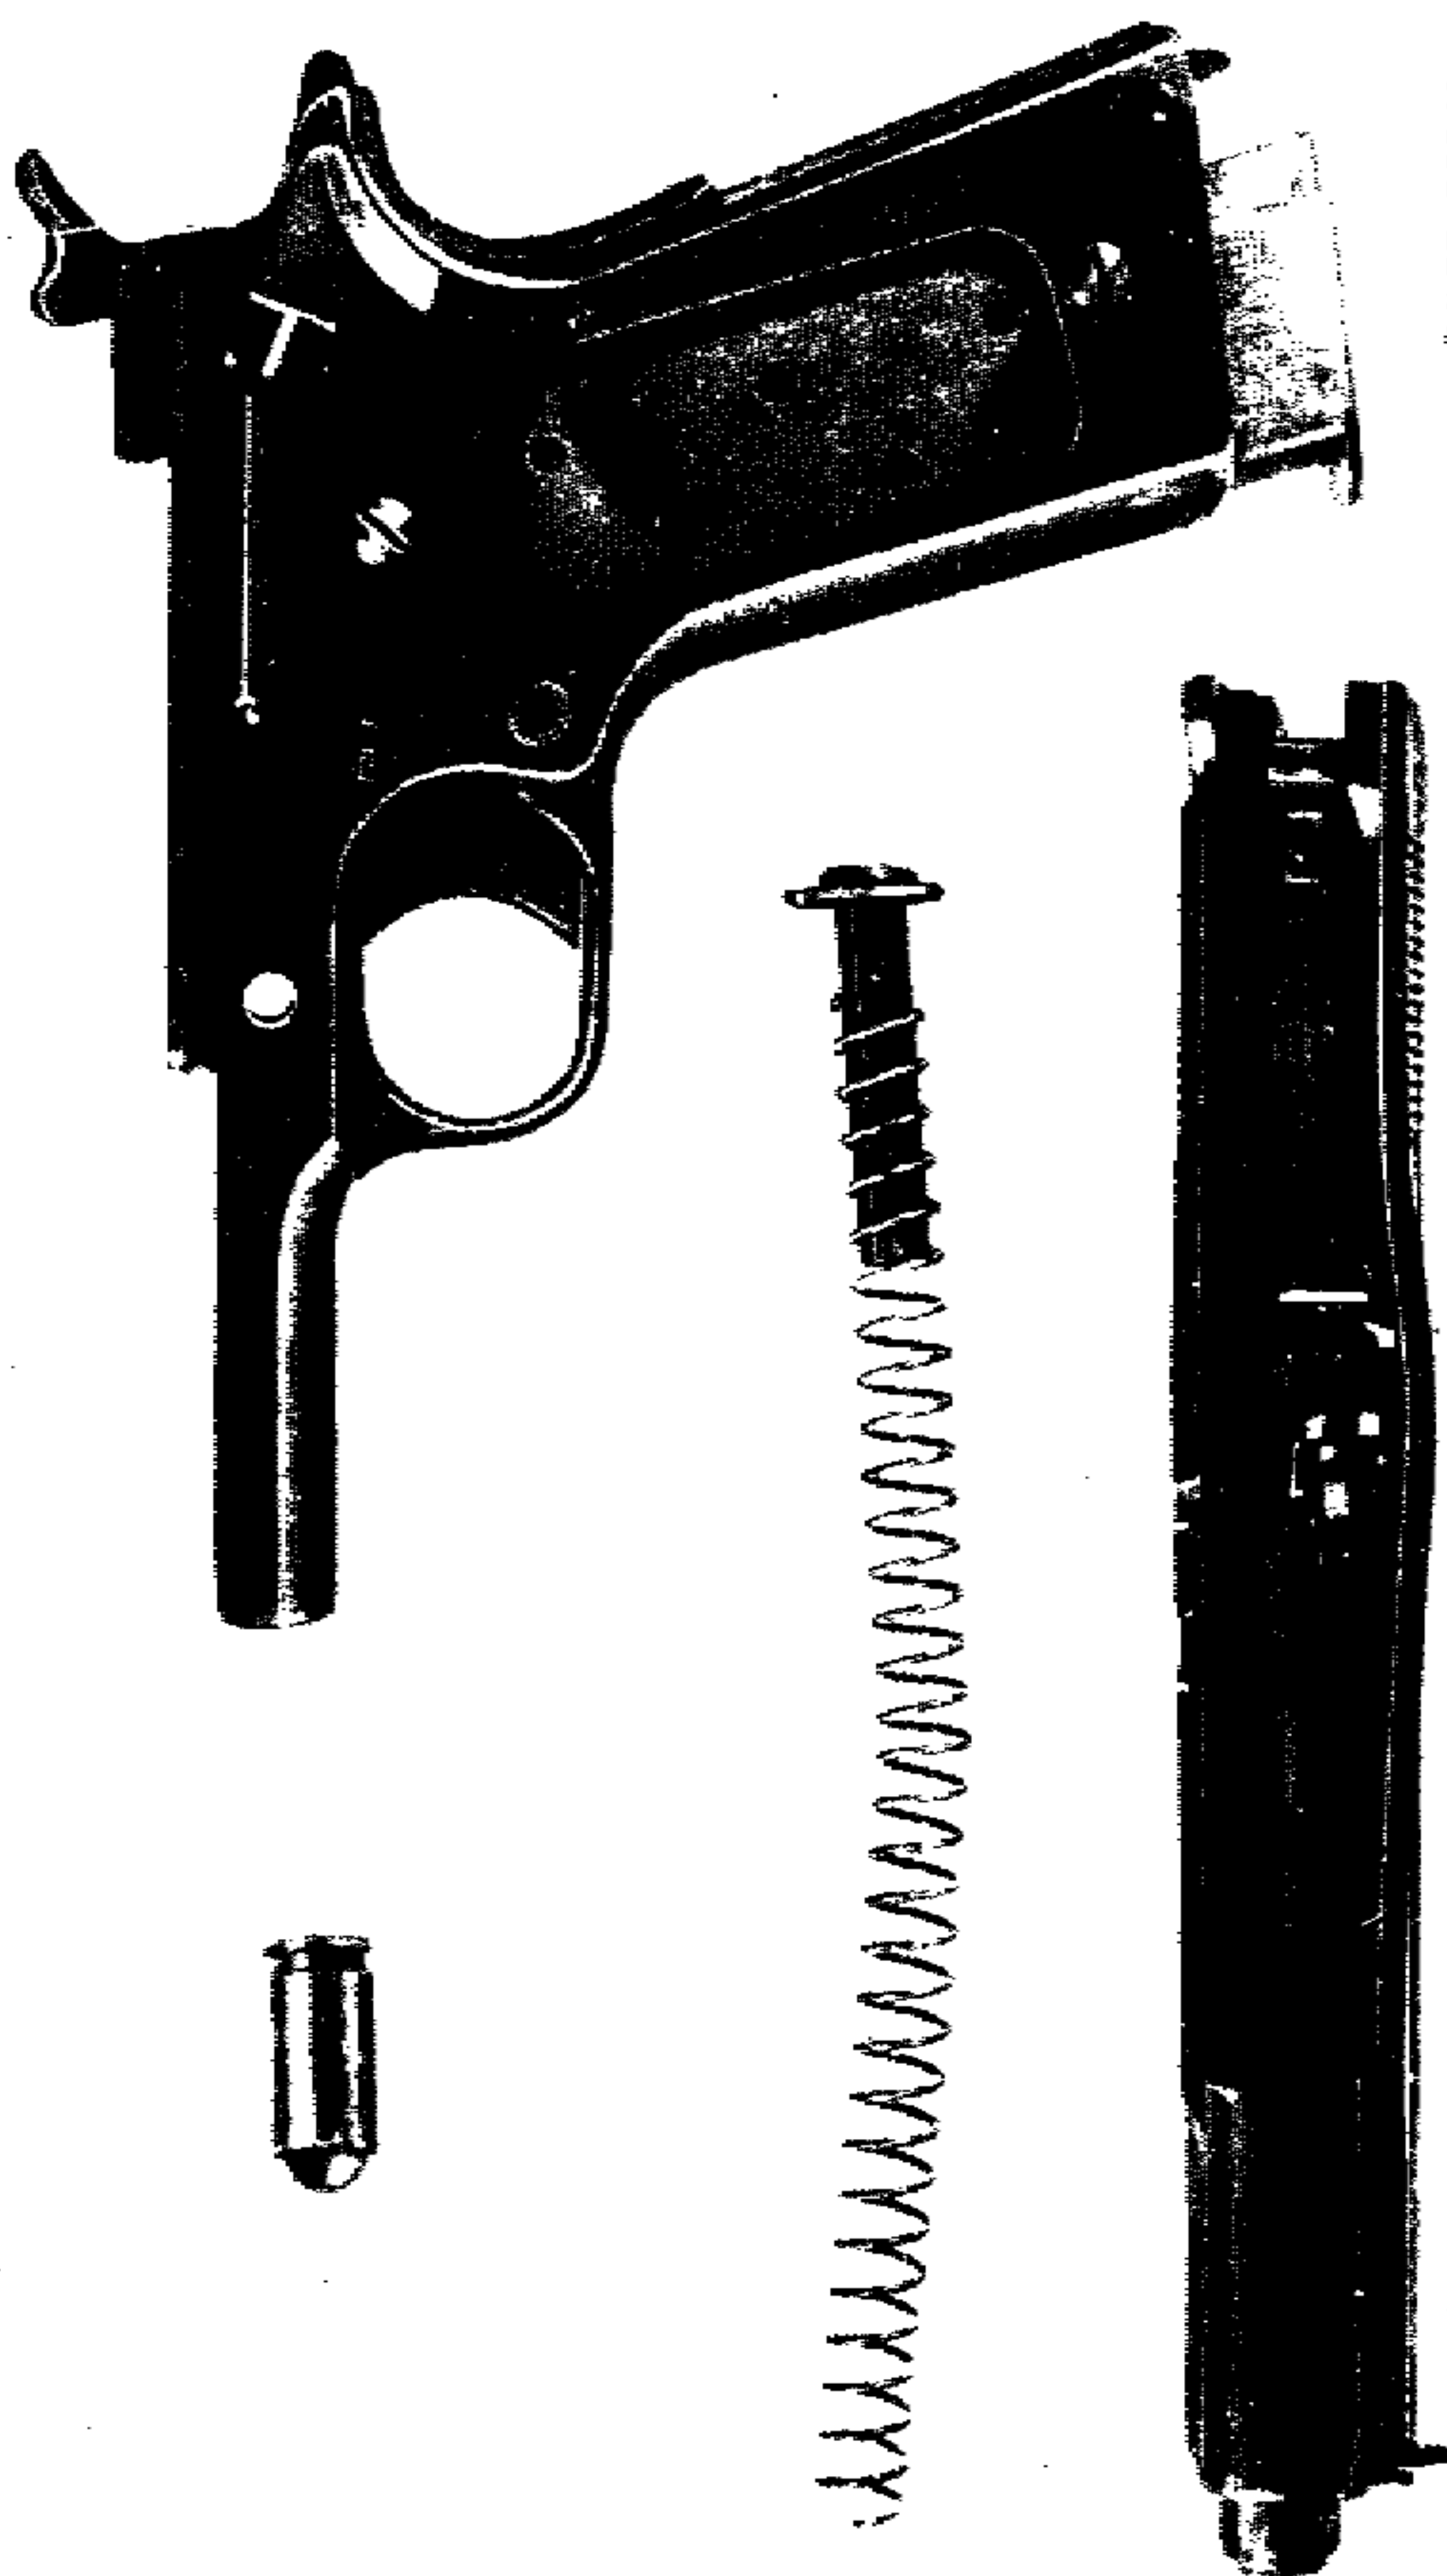

Figure 70. Damage caused by firing with grease in chamber and bore, cal.45 automatic pistol M1911.
- (1) Figure 70 shows a pistol in which a normal round was fired with grease in the chamber and breech end of the bore. The chamber pressure that developed was sufficient to rupture the head of the cartridge case, releasing the powder gases into the action. Note the bulged slide and the damaged top round from the magazine.